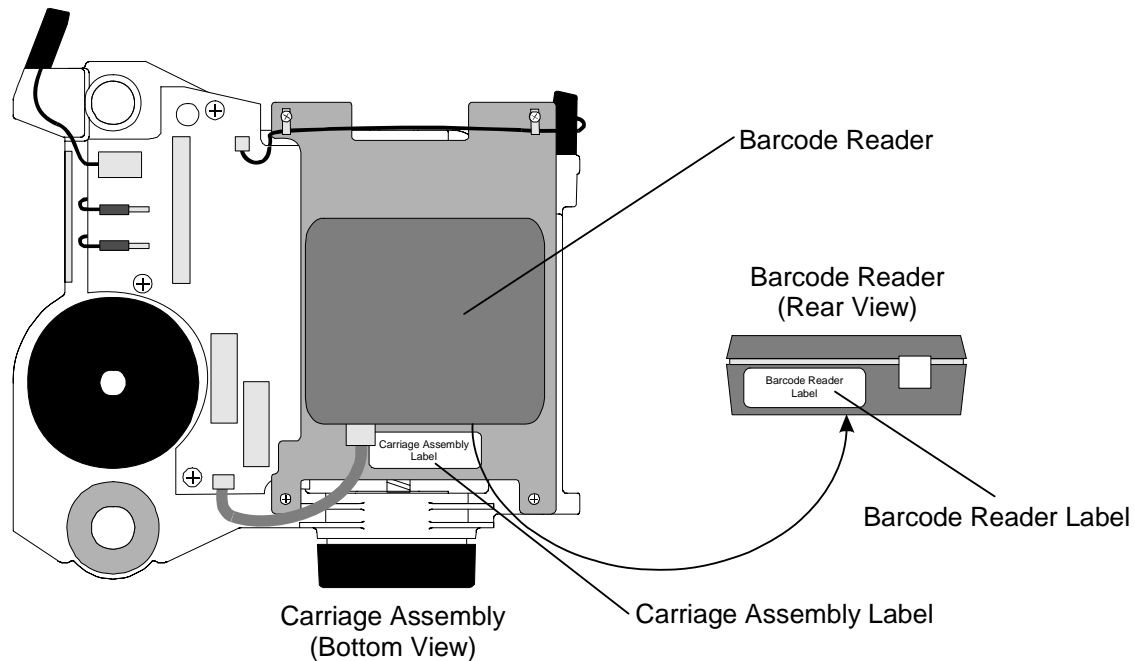

Figure 7-37 Carriage Assembly and Barcode Reader Labels
3. Inspect the label on the Carriages to determine their revision levels (e.g., Carriage: B). See Figure 7-37.
4. If a Barcode Reader or Readers are installed, inspect the labels to determine model numbers (e.g., WA3700/B-2221). See Figure 7-37.